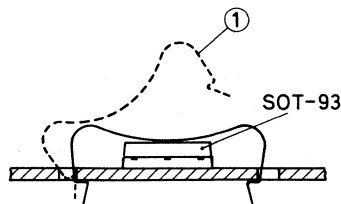

Fig. 1b Mounting.
- Push the short end of the clip into the narrow slot in the heatsink with the clip at an angle of 10° to 20° to the vertical (see Fig. 1b).